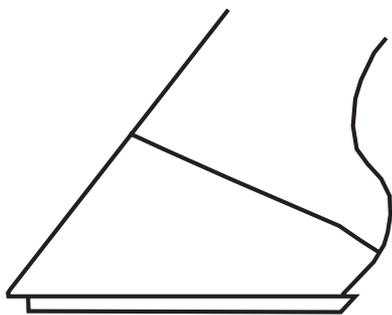

figure 5
- Square toe of the shoe is centered on the toe of the hoof and perpendicular to the centerline of the foot (from heel to toe). (figures 5, 6)